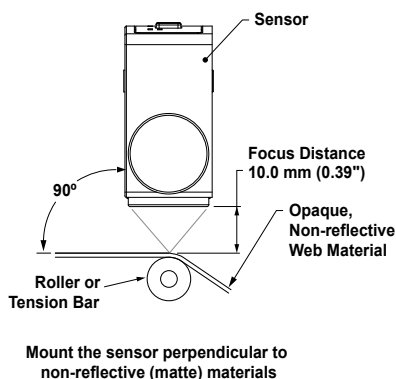

Figure 3. Mounting for Matte Material
- Whenever possible, sense a web material at a location where it passes over a tension bar or roller, to minimize the adverse effects of web "flutter" or sag (Figure 3 on page 3).